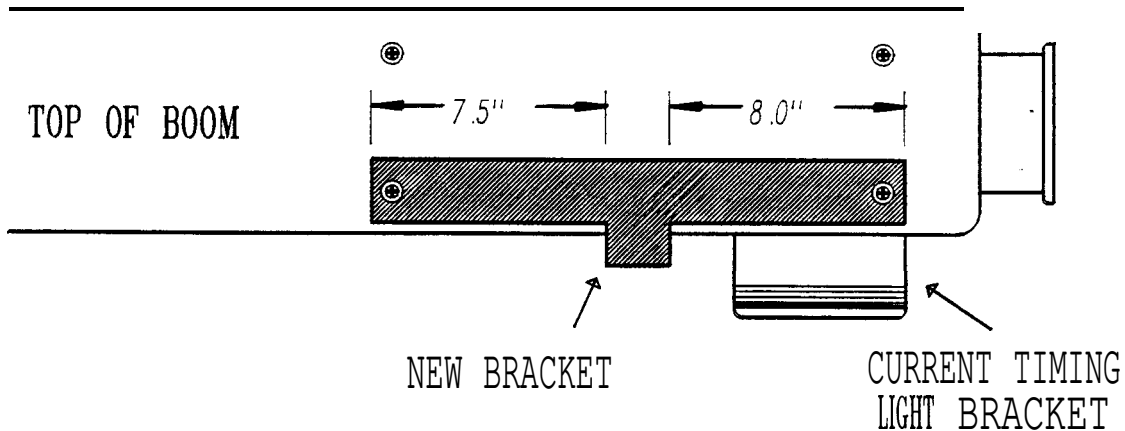

FIGURE 1 TIMING LIGHT BRACKET MOUNTING POSITION
1. Remove the two screws on-top of the Boom as shown in Figure 1.